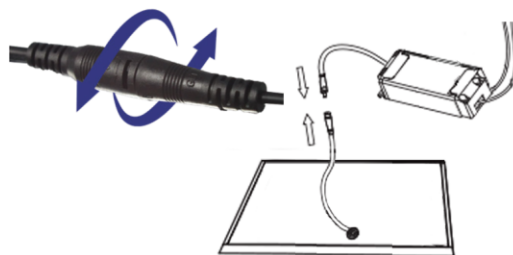

Fig.3
Step 3: Connect the panel light and driver, Fig.3.